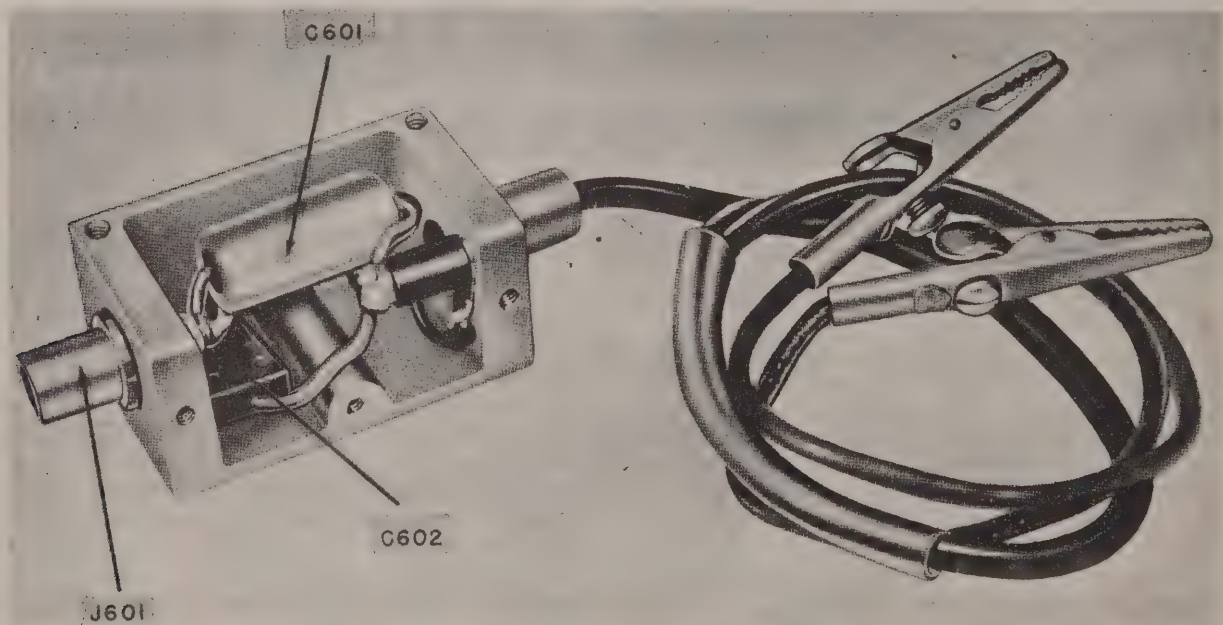

Figure 2-11. Test Lead CX-1363/U
9. TEST LEAD CX-1363/U (See figure 2-11).